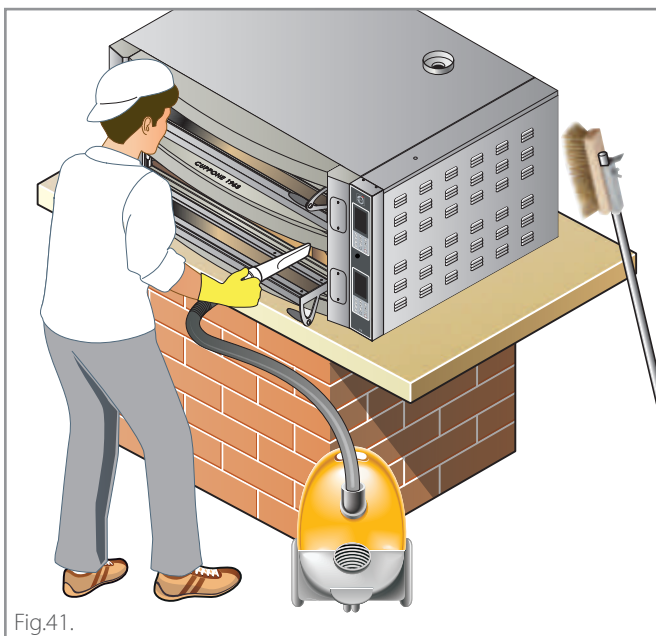

Fig.41.
- E** in a cold oven, clean the chamber from the crystallized food residues using a natural fibre brush and then vacuum with an ash extraction bin ► Fig.41.
- D** in a cold oven, clean the chamber from the crystallized food residues using a natural fibre brush and then vacuum with an ash extraction bin ► Fig.41.